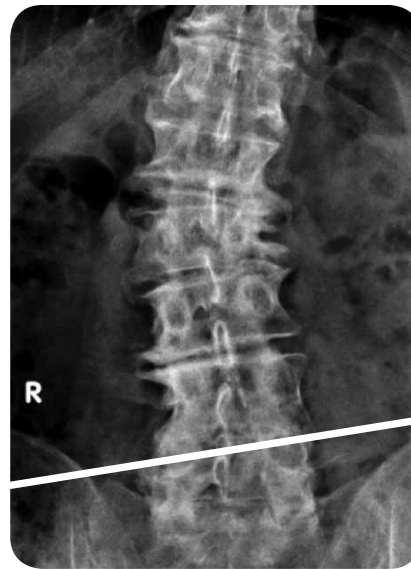

Figure 2
- » Curvature of the spine (**Figure 2**)